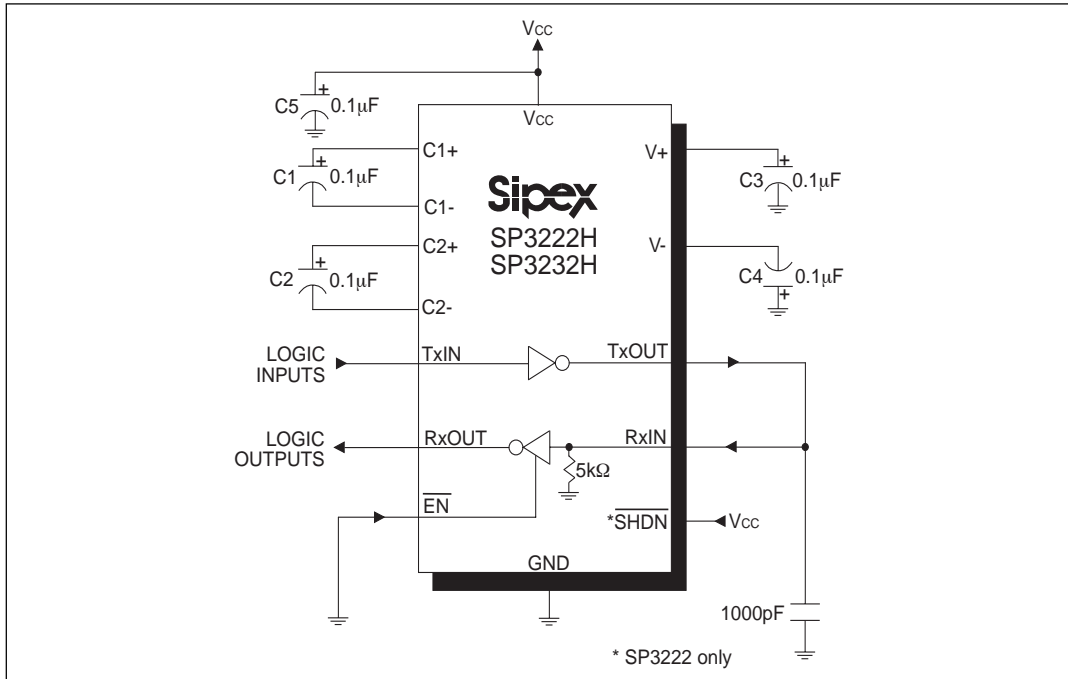
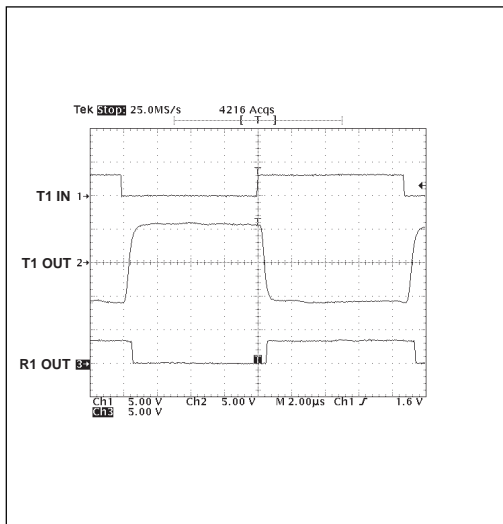
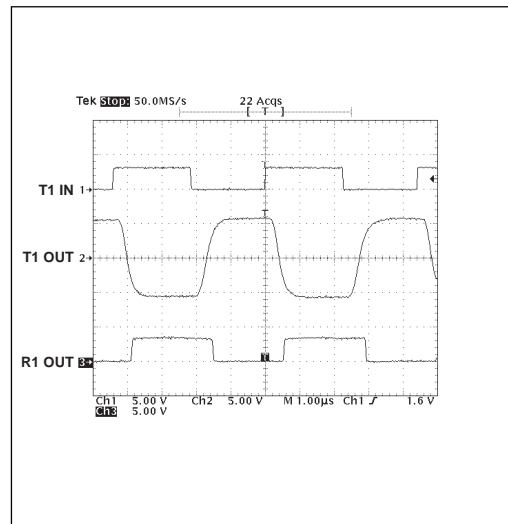

Figure 8. SP3222H/3232H Driver Loopback Test Circuit
Figure 9. Driver Loopback Test Results at 120Kbps
Figure 10. Driver Loopback Test Results at 460Kbps
*Figure 8* shows a loopback circuit used to test the RS-232 drivers. *Figure 9* shows the test results of the loopback circuit with all drivers active at 120Kbps and RS-232 loads in parallel with  $1000\text{pF}$  capacitors. *Figure 10* shows the test results where one driver is active at 460Kbps and all drivers are loaded with an RS-232 receiver in parallel with a  $1000\text{pF}$  capacitor.